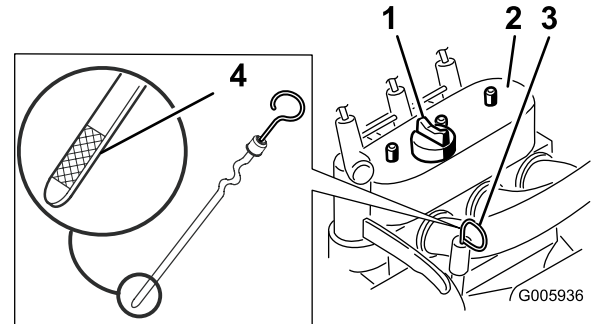

Figure 28
- Clean the area around the oil dipstick (Figure 28).
- Pull out the dipstick and wipe the metal end clean (Figure 28).
- Slide the dipstick fully into the dipstick tube (Figure 28).
- If the oil level is low, clean the area around the oil-fill cap and remove the cap (Figure 28).
11. Remove the fill cap (Figure 28) and slowly pour approximately 80% of the specified amount of oil in through the valve cover.